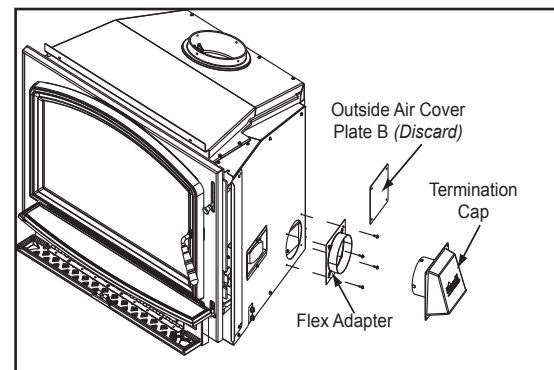

Figure 19.2
5. Remove the outside air cover plate B on outer can and discard. **Figure 19.2**